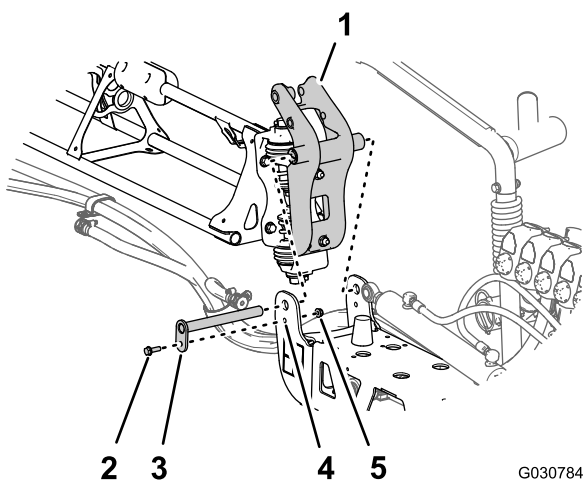

Figure 100
3. Align the busings in the pivot fitting with the holes in the flanges of the pivot bracket at the end of the center boom section (Figure 100).